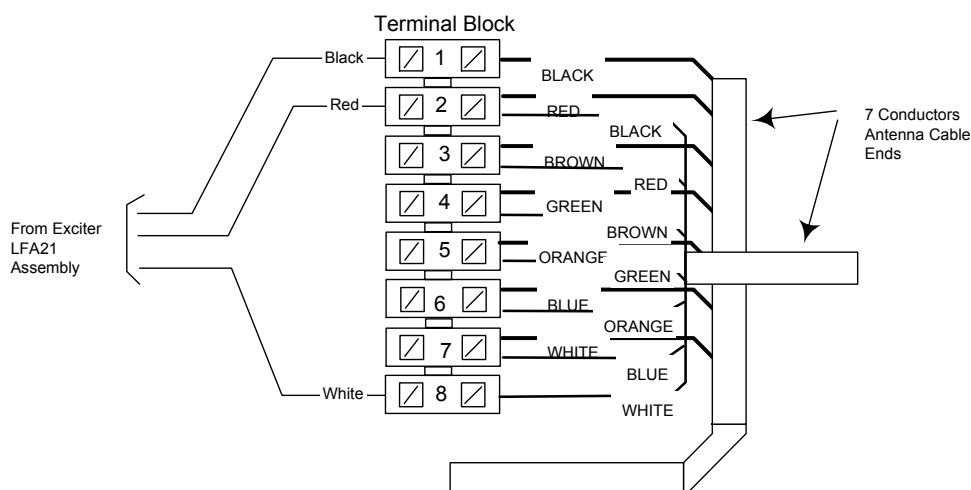

Figure 3-1: LF Antenna Connections
3. Using a screwdriver, connect the antenna cable conductors in the terminal block as shown in Figure 3-1.